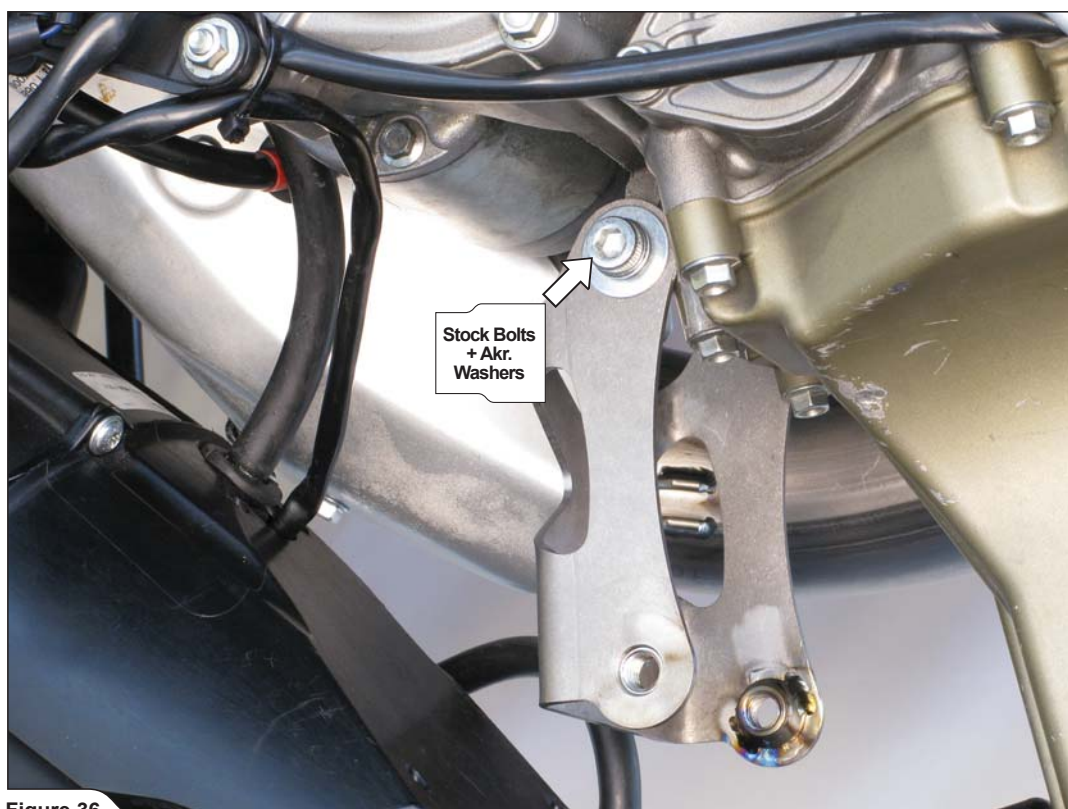

Figure 36
10. Hand tighten the front mufflers' bracket onto the oil sump, using stock bolts and Akrapovič washers (Figure 36).